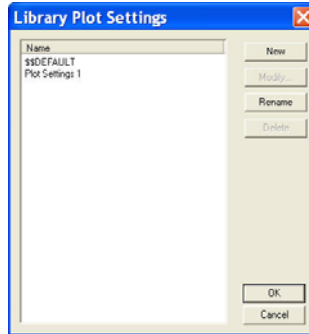
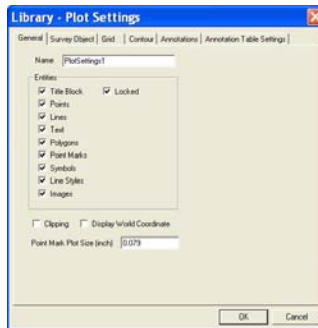

Figure 16-26. Library Plot Settings Dialog Box
Figure 16-27. Library Plot Settings – General Parameters
Click **Library ▶ Plot Settings**. The *Library Plot Settings* dialog box appears (Figure 16-26).
- **Modify** – highlight a name on the *Library Plot Settings* dialog box (Figure 16-26 on page 16-39), then press **Modify** to edit a plot setting. The *Library – Plot Settings* dialog box appears (Figure 16-27 on page 16-40). Select parameters from the General tab menu options.
- **Rename** – highlight a name, then press **Rename** to change the name of a plot setting (Figure 16-26 on page 16-39).
- **Delete** – highlight a name, then press **Delete** to remove the name of a plot setting (Figure 16-26 on page 16-39).
- **OK** – press to save a library plot setting and return to the main screen (Figure 16-26 on page 16-39).
- **Modify** – highlight a name, then press **Modify** to edit a plot setting. The *Contour Settings* dialog box appears (Figure 16-27 on page 16-40).